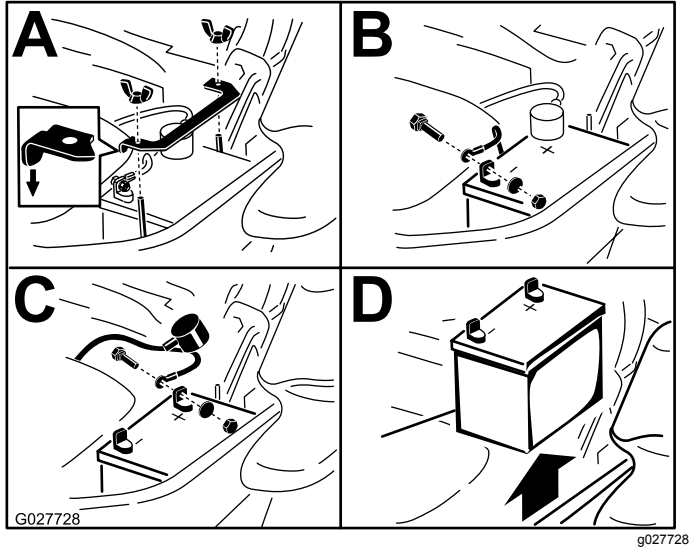

Figure 51
3. Disconnect the negative battery cable (black) from the negative (-) battery terminal (Figure 51).
4. Slide the red terminal boot off the positive (+) battery terminal and remove the positive (red) battery cable (Figure 51).
5. Remove the wing nut securing the battery clamp (Figure 51).
6. Remove the clamp (Figure 51).
7. Remove the battery (Figure 51).
1. Position battery in the tray with the terminal posts opposite from the hydraulic tank (Figure 51).
4. Secure the cables with 2 bolts, 2 washers, and 2 locknuts (Figure 51).
6. Install the clamp and secure it with the wing nut (Figure 51).